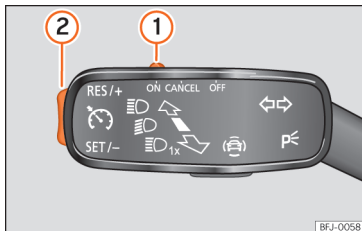

Fig. 150 On the turn signal lever: controls for operating the GRA.
- Move the control » Fig. 150 ① to **ON**.
- Press button » Fig. 150 ② in area **SET/-**.
- Move the control » Fig. 150 ① to **CANCEL** or step on the brake.
- Press button » Fig. 150 ② in area **RES/+**.
While the GRA is set, the stored speed can be adjusted with button » Fig. 150 ②:
- To increase in increments of 1 km/h [1 mph] briefly press button » Fig. 150 ② in the area **RES/+**.
- To increase the speed without interruption, keep button » Fig. 150 ② pressed down in the area **RES/+**.
- To reduce in increments of 1 km/h [1 mph] briefly press button » Fig. 150 ② in the area **SET/-**.
- To reduce the speed without interruption, keep button » Fig. 150 ② pressed down in the area **SET/-**.
- Move control » Fig. 150 ① to **OFF**.